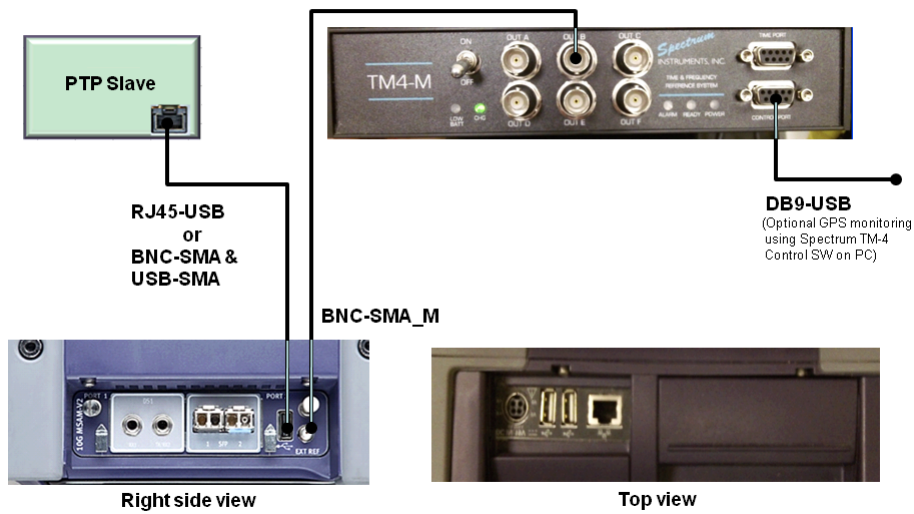
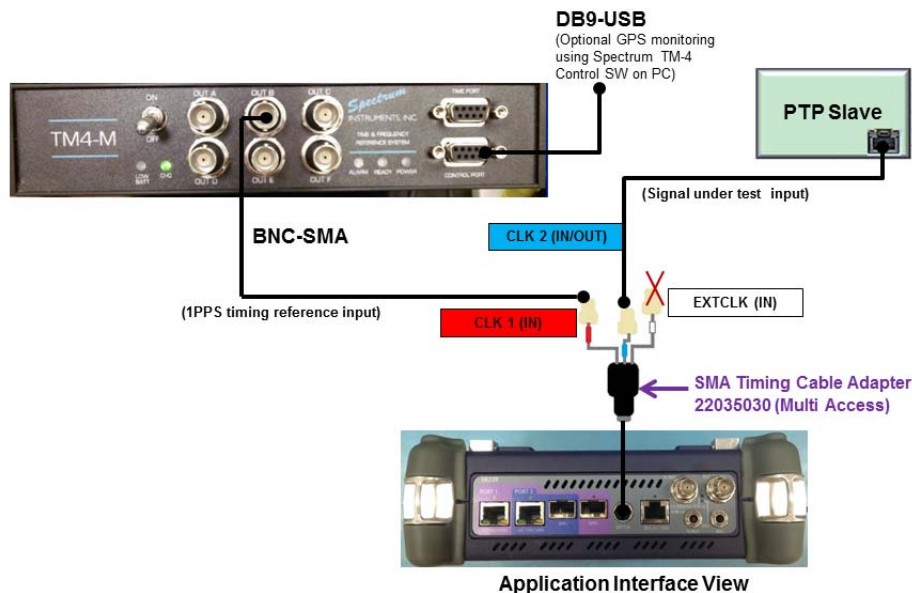

Figure 8 GPS Connections- MTS-6000A with MSAMv2
Figure 11 GPS Connections- 5800v2
- 1 Depending on which instrument you are using, refer to Figure 8 on page 101 through Figure 11 on page 102 to connect the cables.